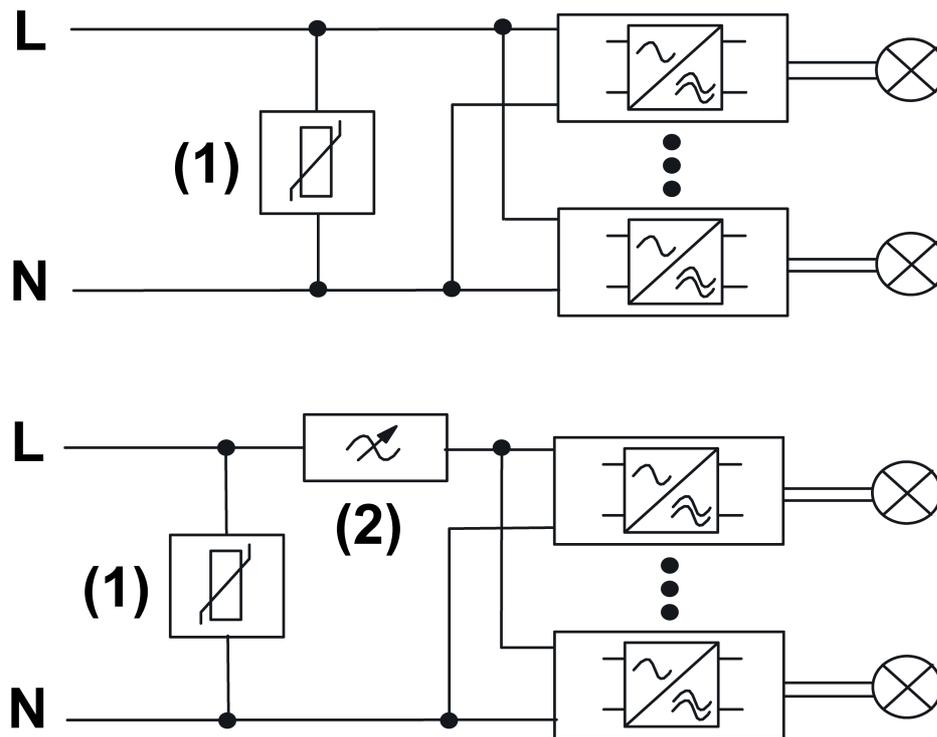

Figure 8: Connection example, surge protection module
- i** If there is a risk of power spikes, connect the primary side surge voltage module (1) to the Tronic transformer in parallel, or, if using dimmers, connect the dimmer (2) in parallel to the series circuit to the Tronic transformer between L and N (Figure 8).